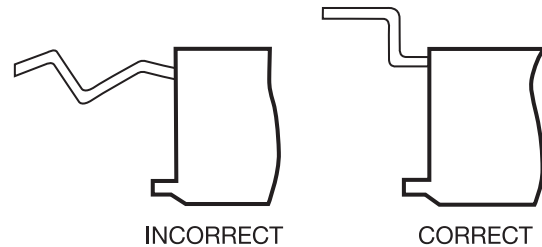

Fig. 23 — Condensate Piping
2. The highest point in the condensate piping should be as close to the unit as possible. See Fig. 23.